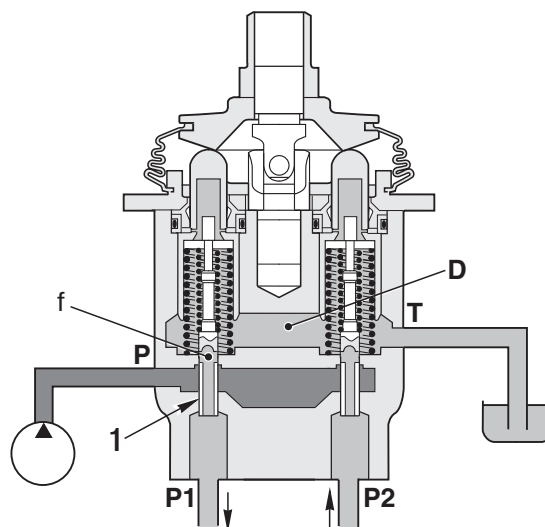

Fig. 1
Ports **P1** and **P2** of the PPC valve are connected to drain chamber **D** through fine control hole **f** in spool (1). (Fig. 1)